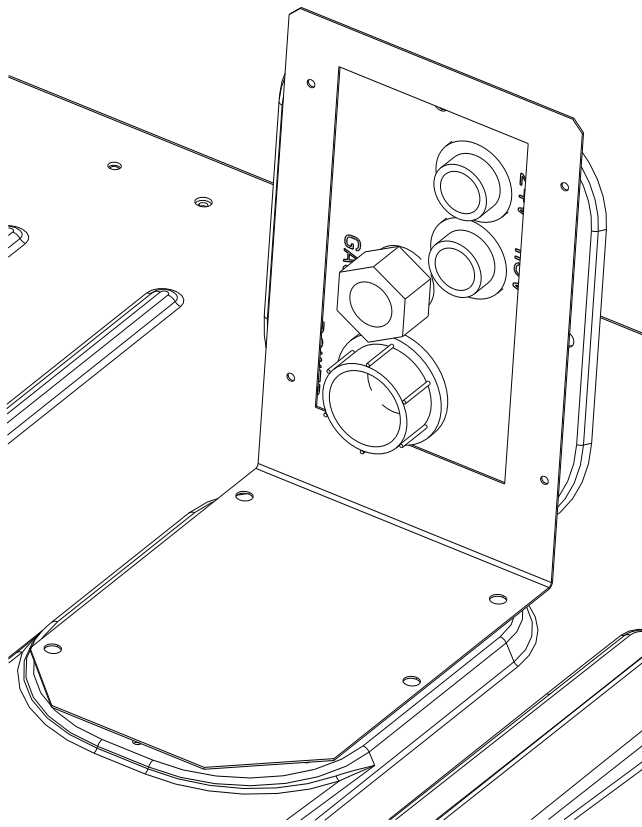
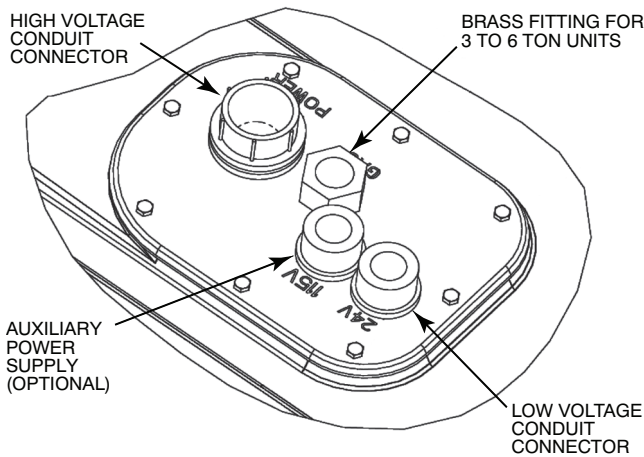

Fig. 17 — Thru-the-Base Fitting Assembly (Shown in Shipping Position)
Fig. 18 — Thru-Base Connection Fittings
This service connection kit consists of a 1/2-in. electrical bulkhead connector and a 3/4-in. electrical bulkhead connector, connected to an "L" bracket covering the embossed (raised) section of the unit basepan in the condenser section (see Fig. 17 for shipping position). The 3/4-in. bulkhead connector enables the low-voltage control wires to pass through the basepan. The 1/2-in. bulkhead connector allows the high-voltage power wires to pass through the basepan. See Fig. 18.
3. Place the gasket over the embossed area in the basepan, aligning the holes in the gasket to the holes in the basepan. See Fig. 18.